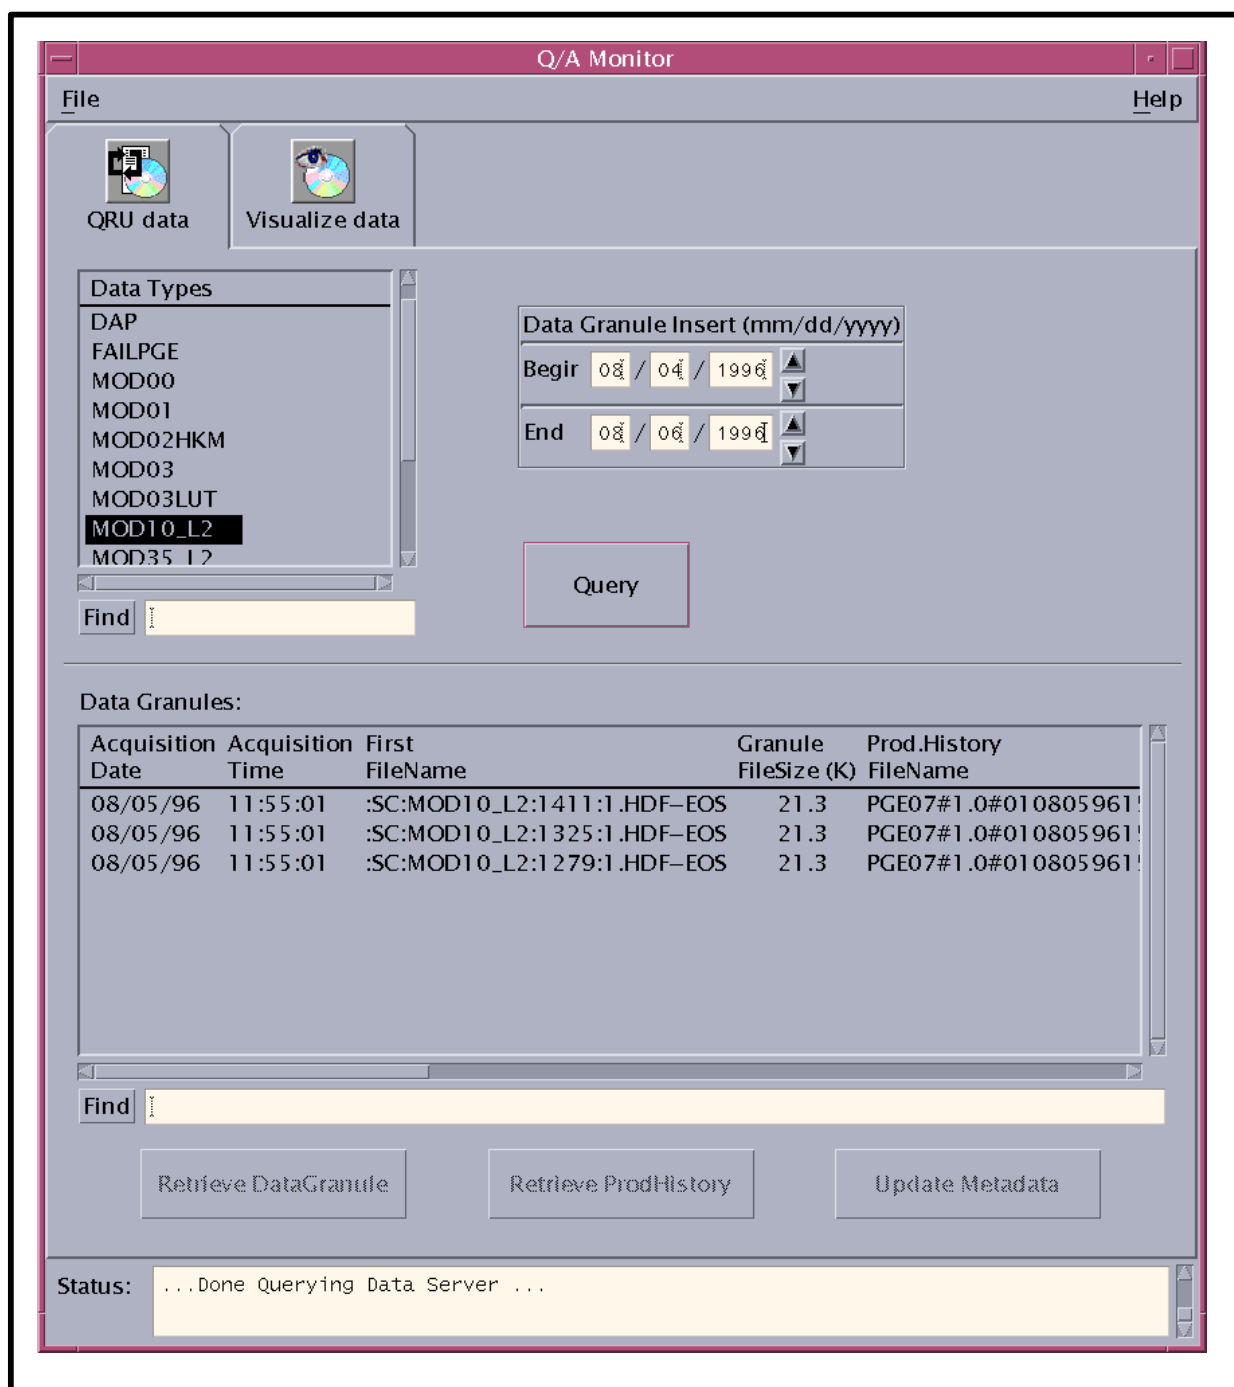

Figure 83. Q/A Monitor GUI - QRU Data Tab
- The **QA Monitor** GUI (Figure 83) is displayed.
The procedure for updating QA metadata starts with the assumption that all applicable servers are currently running and the **Q/A Monitor** GUI **QRU data** tab (Figure 83) (QRU = Query, Retrieve and Update) is being displayed.